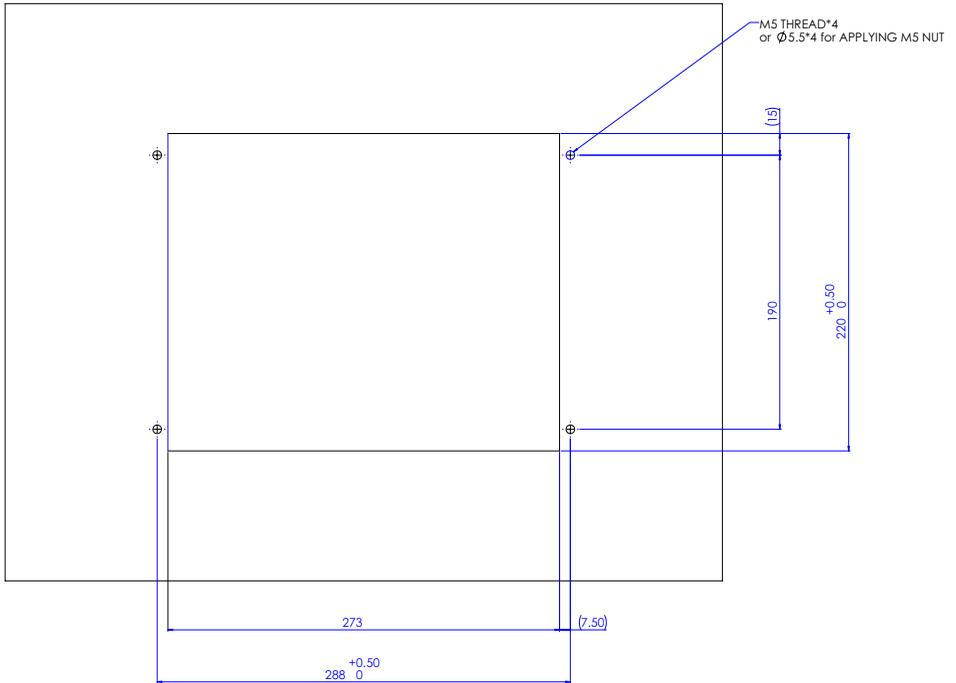

Figure 3-1: DMI-1040 Mounting Hole Locations
1. Prepare the panel opening and screw holes as shown in the Figure 3-1 below (M5 thread or Φ 5.5 through hole).